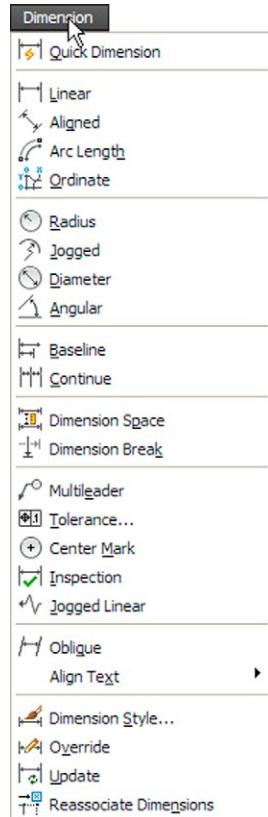

Fig. 6.2 Dimensions in the drop-down menu
2. Click **Dimension** in the menu bar. Dimension tools can be selected from the drop-down menu which appears (Fig. 6.2).